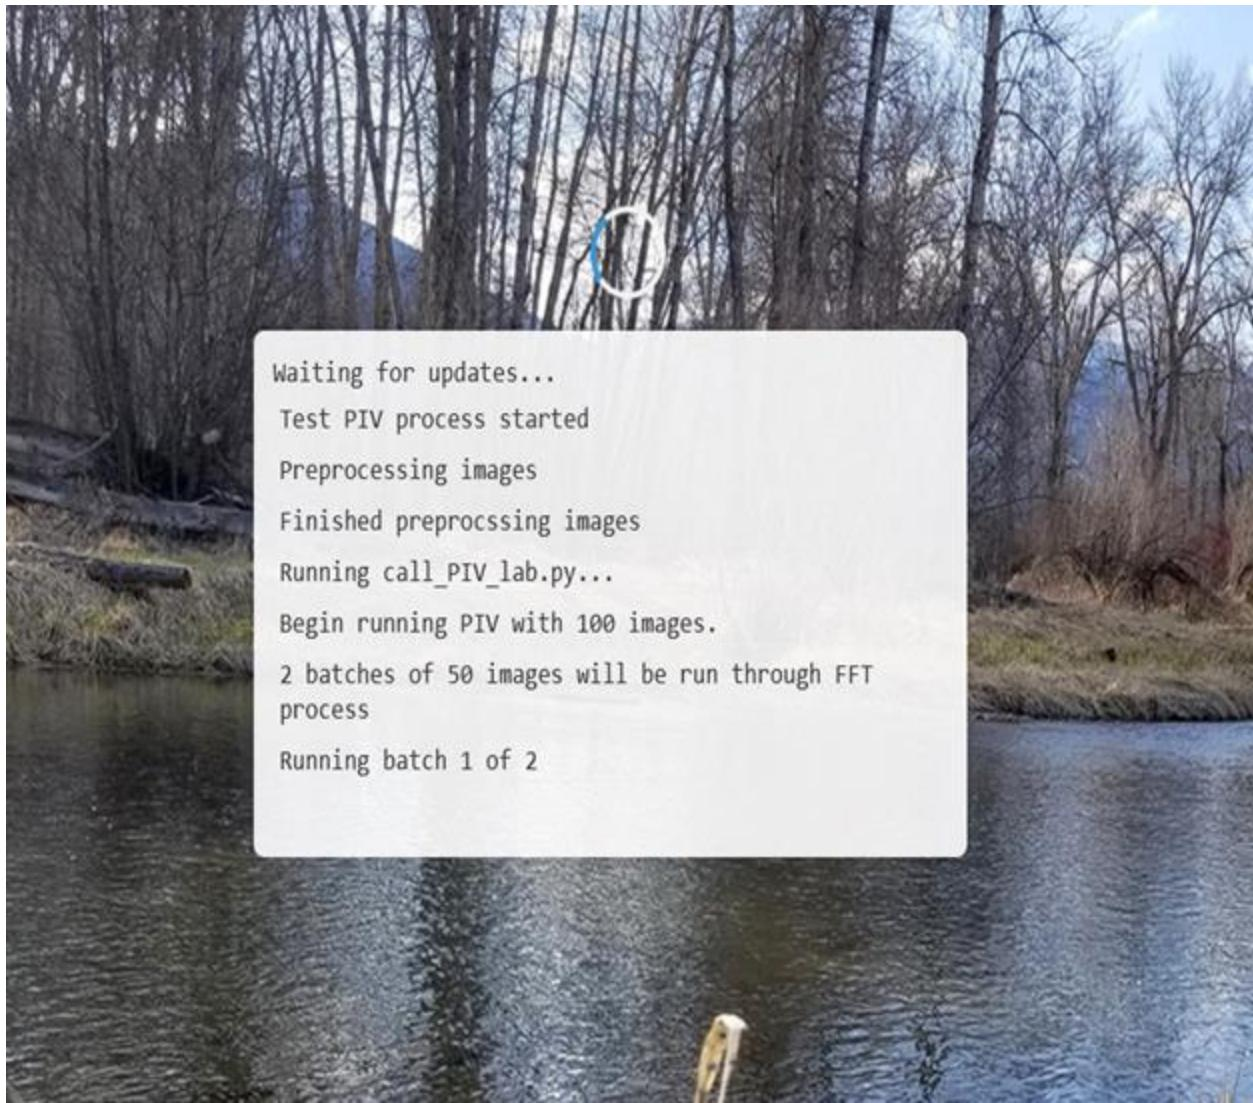

Figure 40. Example of the waiting screen when running a PIV test.
- During the test, you will be directed to a waiting screen that provides live updates on the calculation process – see Figure 40.